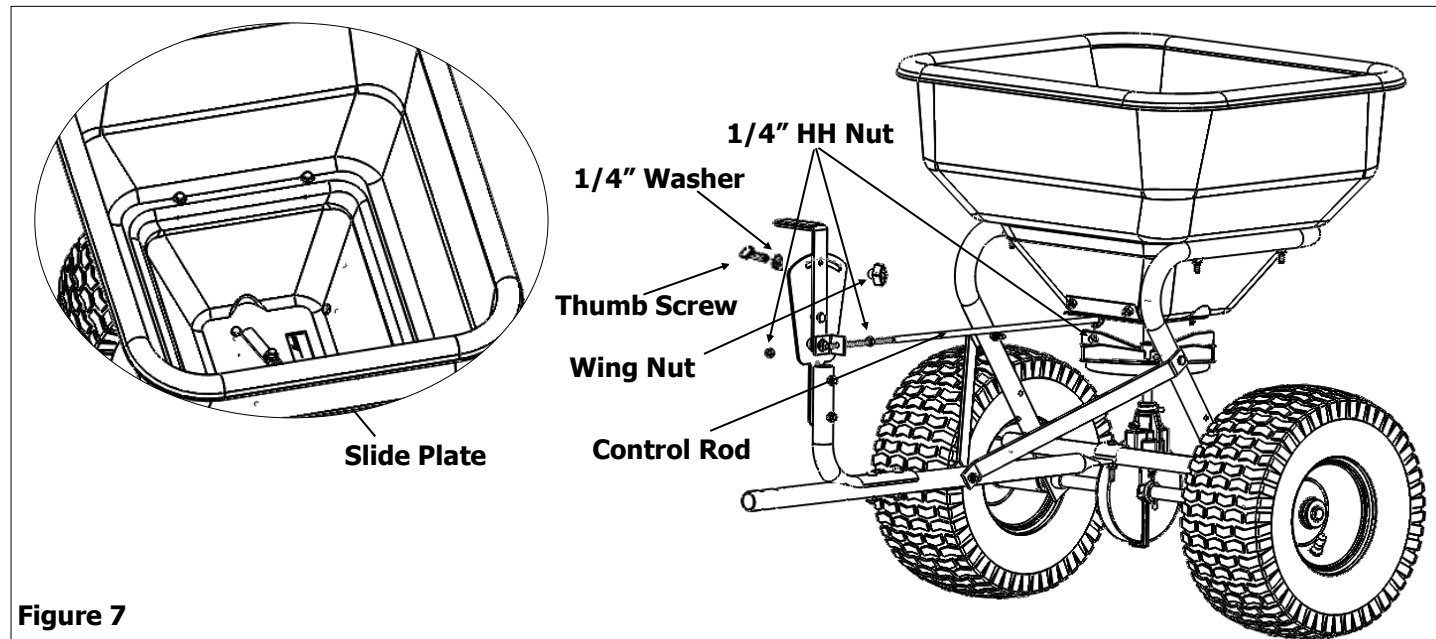

Figure 7
8. Loosen and tighten the 1/4" Hex Head Nut onto the Control Rod till the Control Rod and the Tab gets aligned and secure it. Slide the Slide Plate along the Control Rod until the flow plate in the bottom of the hopper is open half way, adjust the 1/4 Nylock Nut which secures the slide plate and control rod if required. See figure 6 for Slide Plate position. Make sure the slide plate will open and close all the way. Readjust if necessary. See Figure 7.